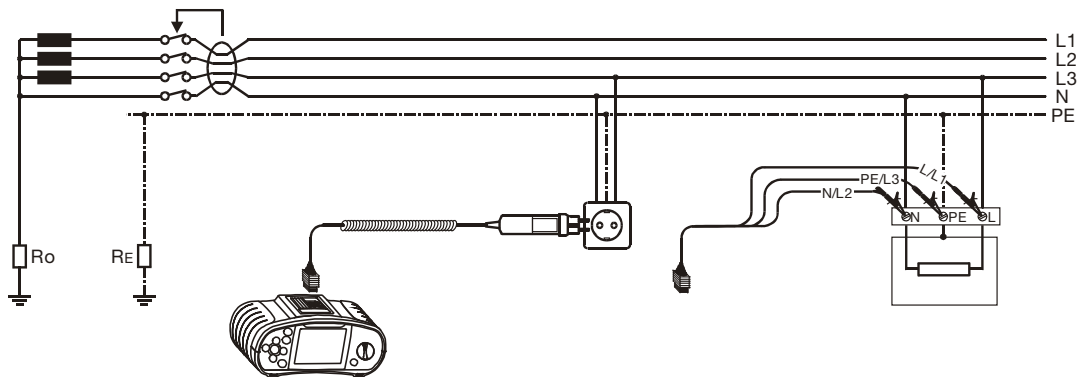

Fig. 5.15: Connection of plug test cable or universal test cable
Step 3 Follow the connection diagram shown in figure 5.15 to perform contact voltage measurement. Use the **Help** function if necessary
Step 3 Follow the connection diagram shown in figure 5.15 (see the chapter **Contact voltage**) to perform trip-out time measurement.
- Step 3** Follow the connection diagram shown in figure 5.15 (see the chapter **Contact voltage**) to perform trip-out current measurement. Use the **Help** function if necessary.
Step 3 Follow the connection diagram shown in figure 5.15 (see the chapter **Contact voltage**) to perform the RCD autotest. Use the **Help** function if necessary.